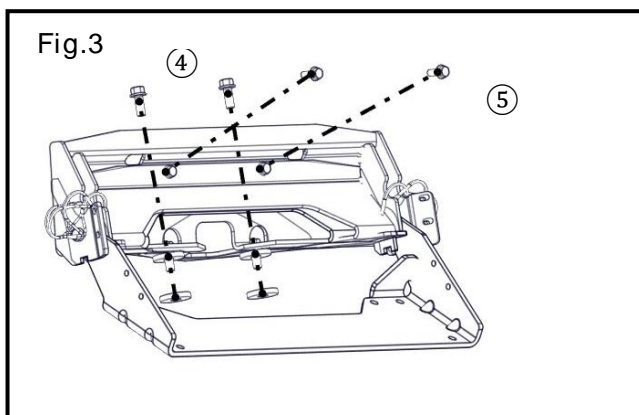

Fig.3
3. Install plow mount (1) to vehicle frame using the two M8 (4) and M10 (5) bolts with spacers (7). The spacers go between the frame and plow mount (1). **Torque the M10 to 50 N-m (37 ft-lb or 5.0 m-kg) and M8 to 25 N-m (18 ft-lb or 2.5 m-kg).** (Fig. 3).